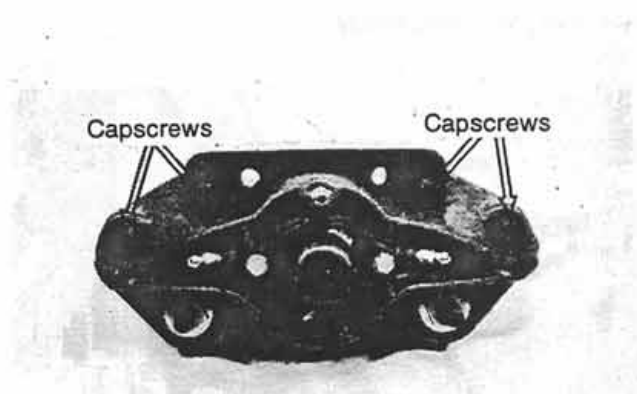

Figure 6:
4. Using a 3/8 inch 12-point socket, remove the four (4) capscrews which fasten the caliper castings together (Fig. 6).